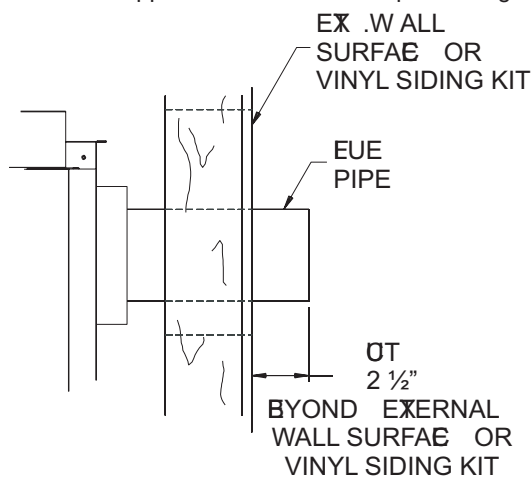
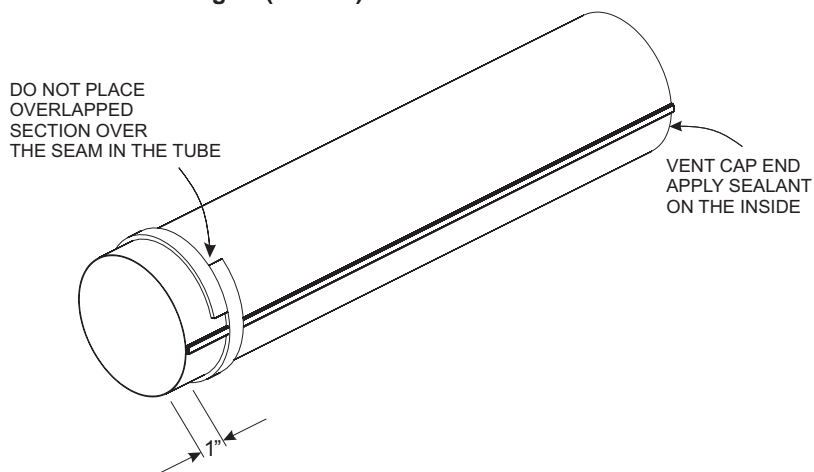

Figure 57
Figure 58
8. Attach the 4" (102mm) diameter flue outlet tube onto the rigid venting system or directly to fireplace. Ensure the 4" (102mm) diameter flue outlet tube is placed as far as possible onto the rigid venting system. Mark the 4" (102mm) diameter flue outlet tube 2 1/2" (64mm) beyond the vinyl siding kit or wall. See **Figure 57**. Remove the 4" (102mm) diameter flue outlet tube from rigid venting system. When installing directly to fireplace, tape gasket needs to be used.
10. From outside: Push the 6 5/8" (168mm) diameter inlet tube/ mounting plate onto end of rigid venting system to correct position. Fasten the outside mounting plate to the vinyl siding kit or wall with (4) 10 x 1 1/2" screws. (Ensure upward slope).
11. From inside: Attach the inlet tube to the collar on the back of the fireplace (or the rigid venting system) using (3) self tapping screws.
12. Seal the 4" (102mm) diameter flue outlet tube. Follow instructions and diagram (**Figure 58**).
14. Fasten vent cap end using (3) 10 x 1/2" screws to mounting plate.
If the air inlet and flue outlet tubes are to be connected directly to the unit (no rigid venting system is being used), then the gasket provided must be used to seal the 4" (102mm) flue outlet tube. Peel the paper off the self-adhesive gasket and then wrap it around the end of the tube (if tube was cut, it is recommended to use cut end) as shown in Figure 58. Pull the gasket tight at all times while wrapping it around tube. The gasket ends should align, to form a complete seal. The overlapped section should NOT come in contact with the seam in the tube. Apply high temperature sealant to the opposite end of the tube (on the inside of the tube). The end with the gasket will attach to the back of the unit. Continue with Step 13.